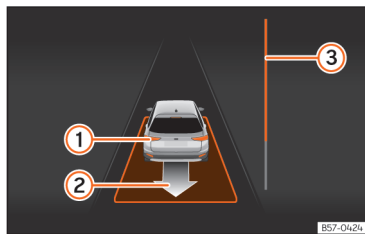

Fig. 166 On the instrument panel display: driving off from perpendicular parking.
- Reverse until the continuous ParkPilot signal sounds; **OR**: reverse until the instrument panel display shows the reverse indication. The progress bar >>> Fig. 166 ③ indicates the distance to cover.
- Press the brake pedal until the parking assist system completes the steering wheel turns; **OR**: press the brake pedal until the symbol (S) goes out on the instrument panel screen.